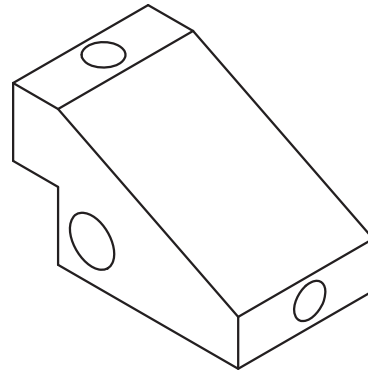

Fig. 38-5
5. Further alter the block so that it looks similar to the one in Fig. 38-5. Use the **ELLIPSE** command to create the holes.